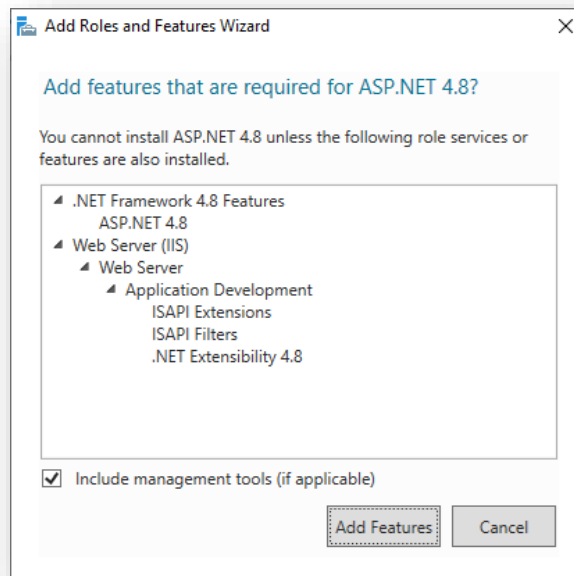

Figure 3 – Add Rules Wizard (Add role services required for ASP.NET)
4. Under the **Application Deployment** node, check the **ASP.NET** option. When the **Add Roles Wizard** pop-up appears, click **Add Required Role Services**. See Figure 3.